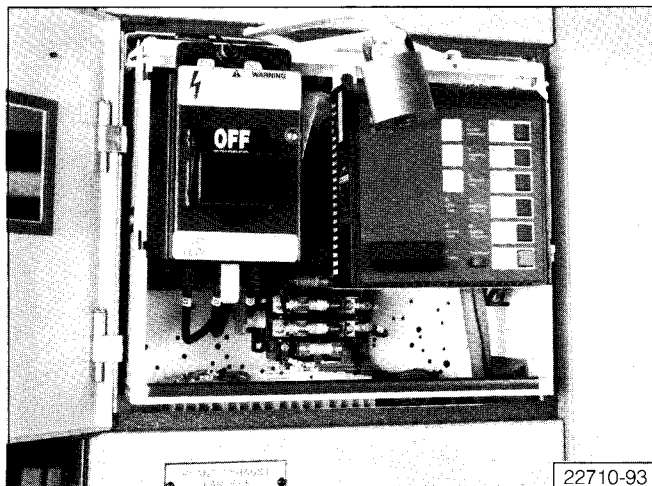

Figure 21B: Operating Handle in the "OFF" Position
5. Grasp the racking cam handle and pull the unit out approximately 1 more inches. Now push the handle back toward the unit until it stops. The unit may be locked out in this position by inserting a padlock in the handle as shown in **Figure 21B**.